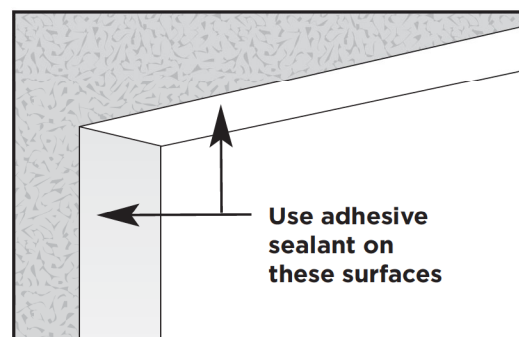

Figure 2
1. Place two continuous beads of masonry adhesive sealant along the concrete rough opening at the head, jambs and threshold (figure 2). Use a nominal 3/8" bead of masonry adhesive sealant to apply 2 continuous straight lines across the entire area where the appropriate framing member will be installed.